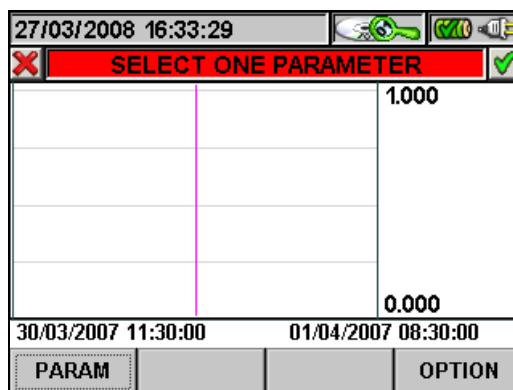

Fig. 90: Selecting a parameter
- The **ESC** key (or smart icon ) to exit the function and go back to the "Selecting a parameter" page (Fig. 90).
- The **ESC** key (or smart icon ) to exit the function and go back to the “Selecting a parameter” page (Fig. 90).
3. Press the **ESC** key (or the smart icon ) to exit the function and go back to the “Selecting a parameter” page (Fig. 90).